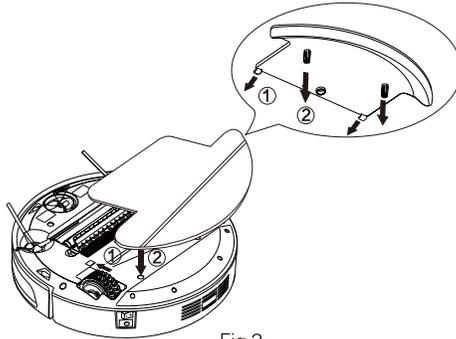

Fig.3
2. As shown in Fig. 3, mount the trailing bar onto the unit by aligning it with holes.